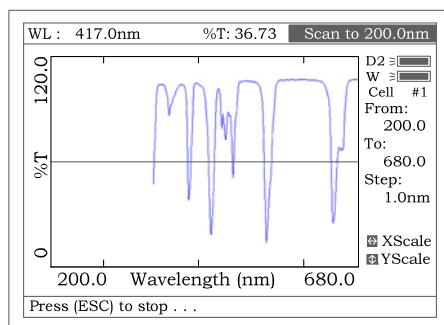
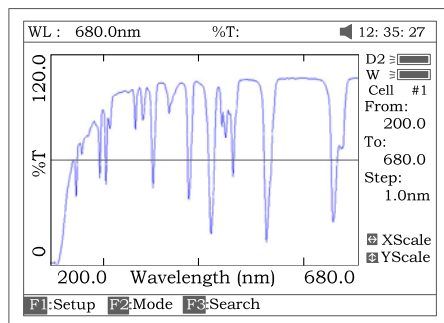

Fig 45
Fig 46
- Pull the sample cuvette into main light path, press [**START**] to scan the sample (Fig 45) [**ESC/STOP**] to stop scanning. When scan has finished the beep tone sounds 3 times (Fig 46).
Note: The report always is printed in Fig 46